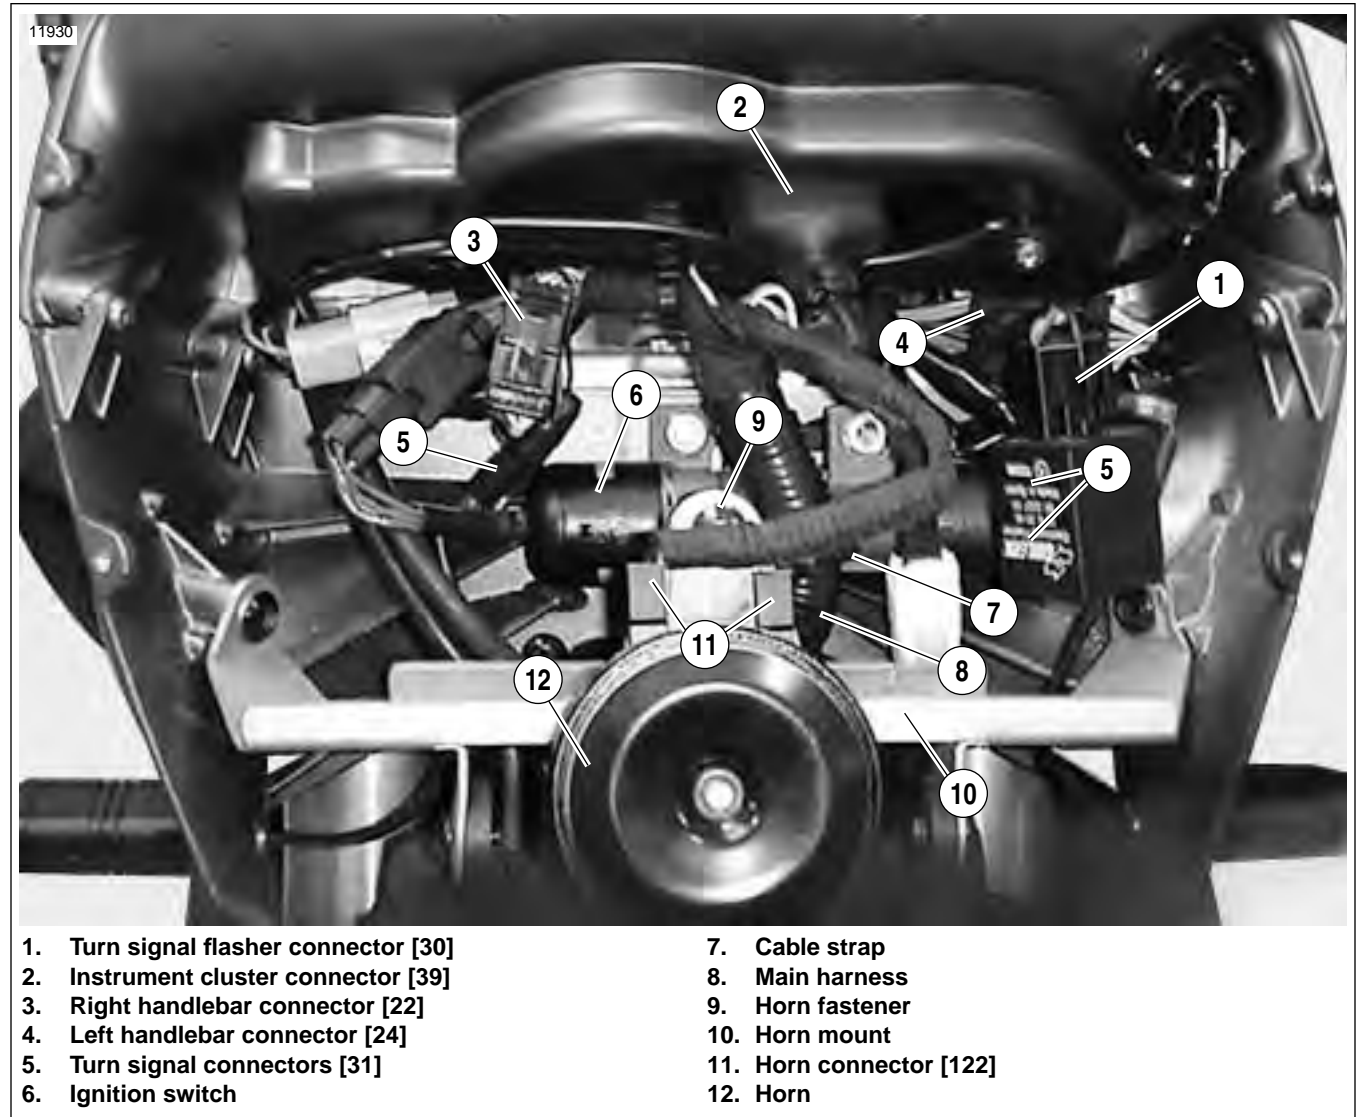

Figure 7-3. Electrical Connectors Behind Windscreen
4. See Figure 7-3. Disconnect:
5. Remove horn mount (10).
6. Cut cable strap (7) that loosely holds main wiring harness (8) to the ignition switch (6) and disconnect ignition switch connector [33].